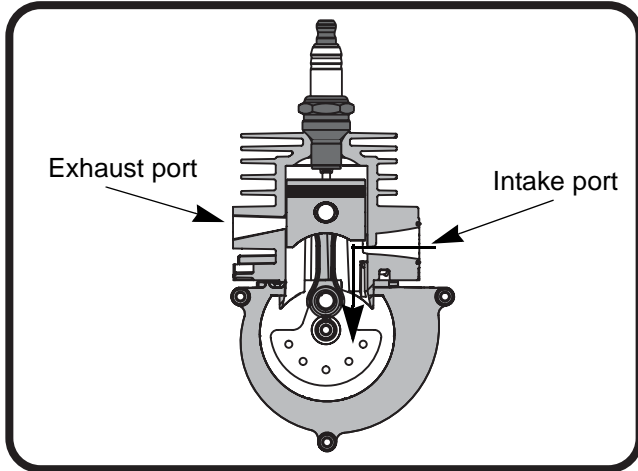

Figure 8.1
- The fuel/air mixture above the piston is compressed. See Figure 8.1.